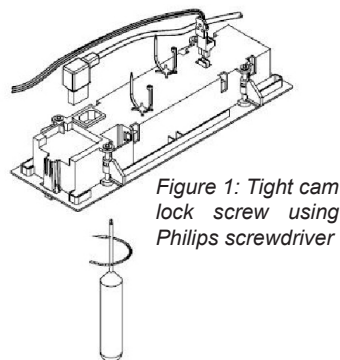

Figure 1: Tight cam lock screw using Philips screwdriver
2. If all looks okay, proceed for installation. Please note circuit supplying mains power to the fitting must not be energised until installation of the fitting is completed. Take out the cut-out template (348mm x 97mm) from the packing box; use a pencil to mark the cut-out position on the ceiling. Once the ceiling cut-out is done, remove the face plate, recess the base assembly through the ceiling cut-out (if access to the ceiling cavity is not available, connect the mains power cord and nexus data cable, secure with the cable ties supplied, before recessing the base in the ceiling cut-out). The Nexus yellow data cable is only connected for the Nexus unit (part number PLRNXSLED). Once recessed in the cut-out, tighten the cam lock screws using suitable size Philips screwdriver or a power driven screwdriver set at minimum torque, turning clockwise (refer Figure 1), to secure the product to the ceiling. Connect the mains power cord and Nexus data cable if not connected earlier and secure with the cable ties supplied.